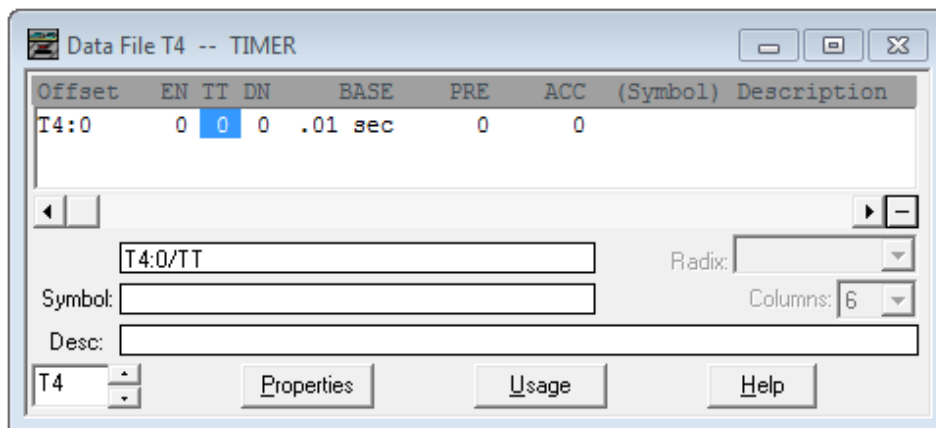

Figure 8.
- The item highlighted in Figure 8 displayed as T4:0/TT in RSLogix 500.